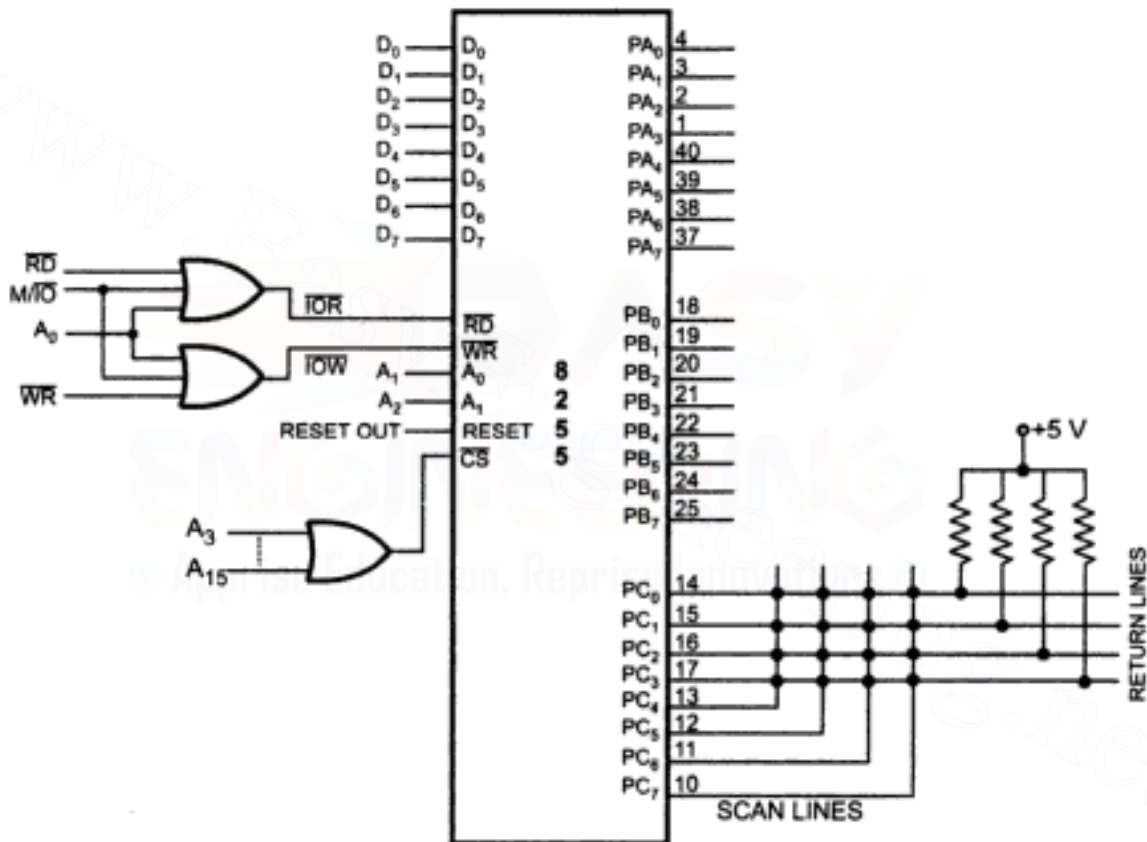

Fig. 7.50 Interfacing of  $4 \times 4$  keyboard with 8086
**Solution :** Hardware : Fig. 7.50 shows a matrix keyboard with 16 keys connected to the 8086 microprocessor using 8255. A matrix keyboard reduces the number of connections, thus the number of interfacing lines. In this example the keyboard with 16 keys, is
In Fig. 7.50 the scan lines are connected to the port  $C_L$  of 8255 and returns lines are connected to the port  $C_U$  of 8255.